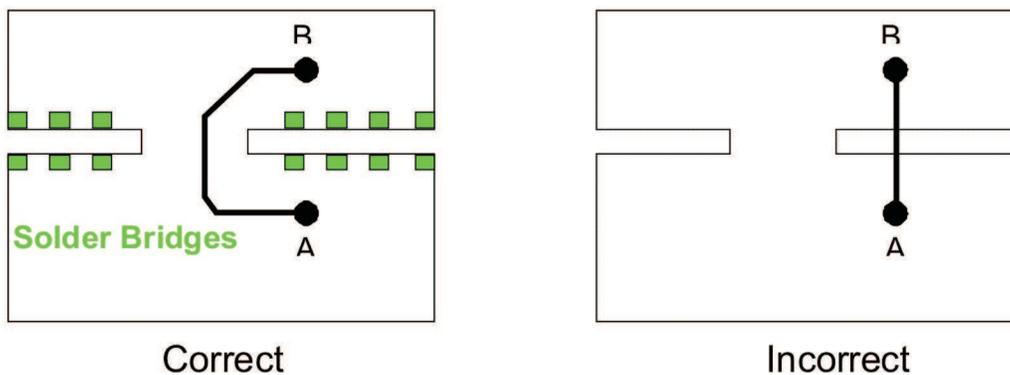

Figure 4. Signal Traces Crossing the Gap of Ground Plane
- Do not run any signal across the gap of a split ground plane. The analog ground and the digital ground should be connected at one point and all the traces commuting between the analog and digital region should be routed over this bridge point as shown in the left part of Figure 4. By doing this, the current returns directly underneath and above each trace and the current loop area is minimized. A high frequency signal across the gap, like the right part in Figure 4, can generate both signal integrity problems (discontinuities) and EMI problems. Even if it is low frequency or DC signal, it might also carry high frequency noise due to the on-board and on-chip coupling.
- Reserve a few solder-bridges along the gap (every half inch) of the ground plane as shown in the left part of Figure 4. You can connect them in case the ground gap introduces problems in your system.